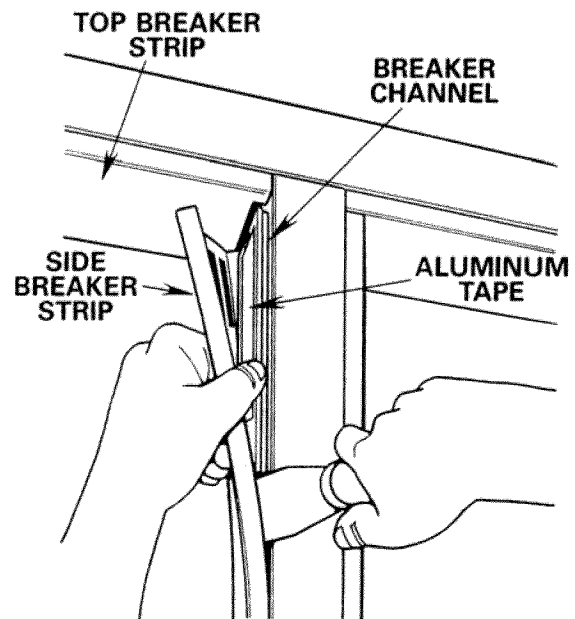

Figure 5 - Breaker Strip Removal
9. Carefully remove the 8 breaker strips as shown in Figure 5. Cut through the RTV sealer at each end of the strip, then using a plastic scrapper or putty knife, **disengage** the front edge, beginning at one end. When the strip is fully released along the front edge, **insert** the scraper behind the strip from the inside and **pry it out** of the channel at the rear. **Slide the breakers out** of the bottom corner brackets.